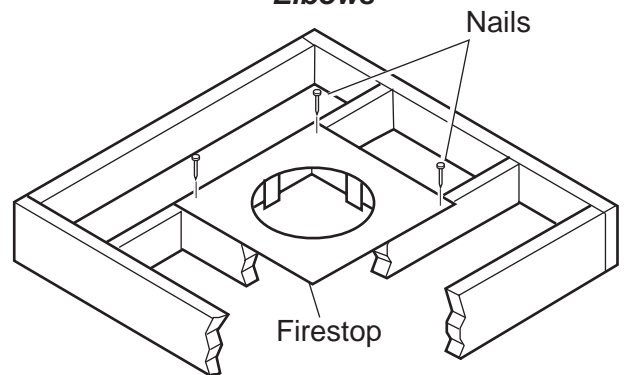
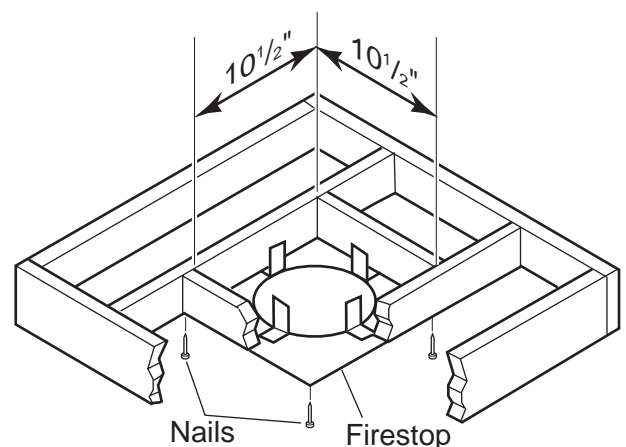

Figure 21 - If Area Above is a Room, Install Firestop above Framed Hole as Shown
Figure 22 - If Area Above is Not a Room, Install Firestop above Framed Hole as Shown
1. Cut a 10¹/₂" (241mm) square hole in the ceiling using the locating hole as a center point. The opening should be framed to 10¹/₂"x10¹/₂" (241mm x 241mm) inside dimensions as shown in Figure 22 using framing lumber the same size as the ceiling joist. If the area above the ceiling is an insulated ceiling or a room, nail firestop from the top side. This prevents loose insulation from falling into the required clearance space. See Figure 21. Otherwise, install firestop below the framed hole. See Figure 22.